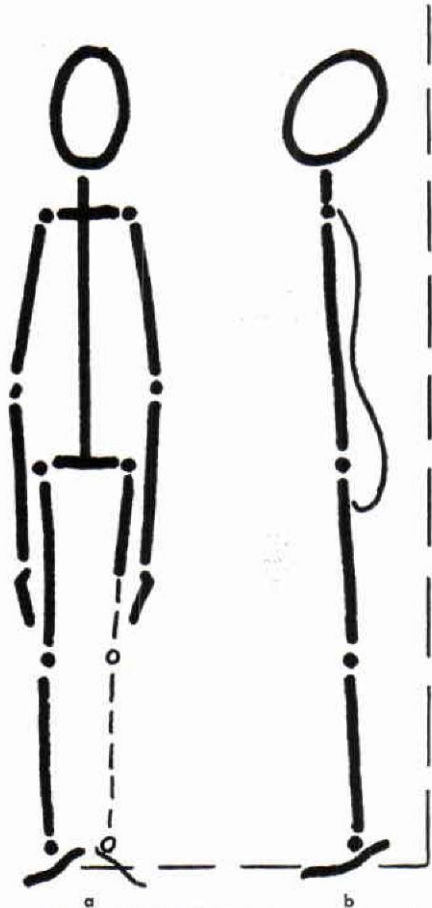

Fig. 5. The body in good standing position.
- then repeat with one arm supporting, then repeat with no support. (Fig. 5.) Also in front of mirror.